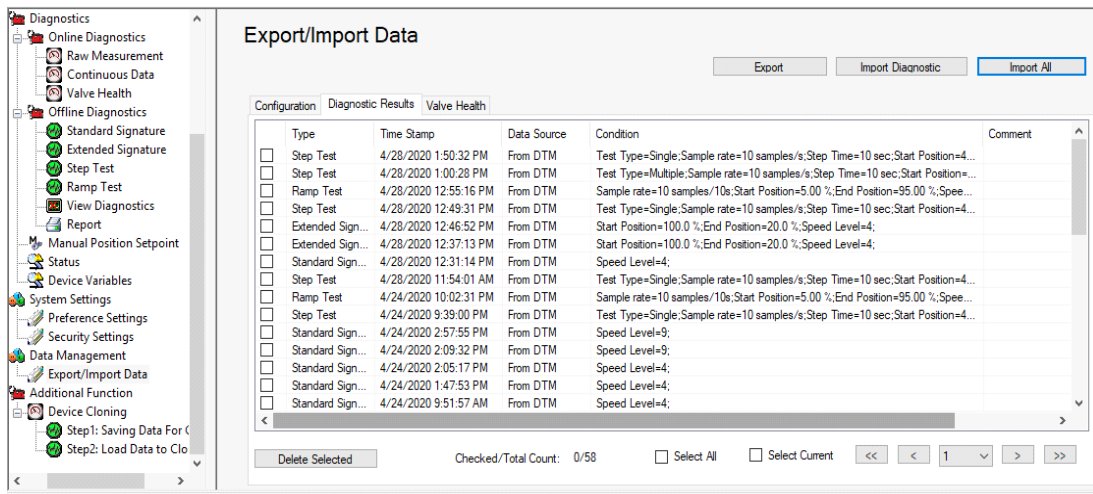

Figure 103 - Diagnostic Results Imported
4. Click **OK** and Figure 103 appears with the items imported. A selected test result can be viewed by double click or deleted by clicking Delete Selected button.